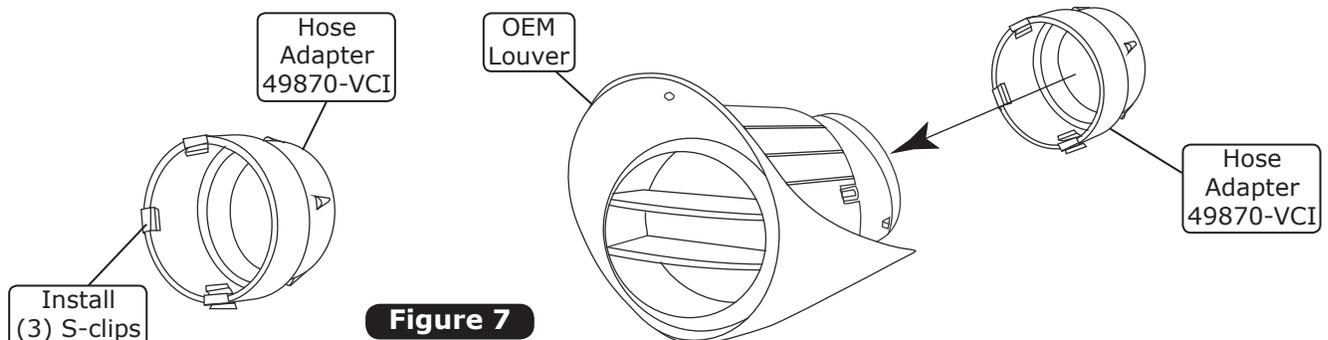

Figure 7
1. Install (3) S-clips onto the hose adapters as shown in Figure 7, below.
2. Install the driver & passenger side hose adapters outside the OEM louvers (See Figure 7, below).